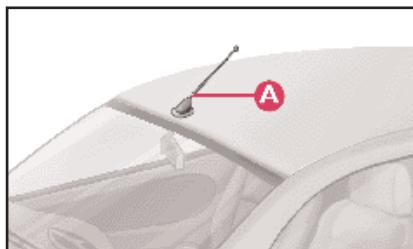

fig. 94
- one dual purpose aerial (sound system and cellular phone) A (fig. 94) located on the front part of the roof;